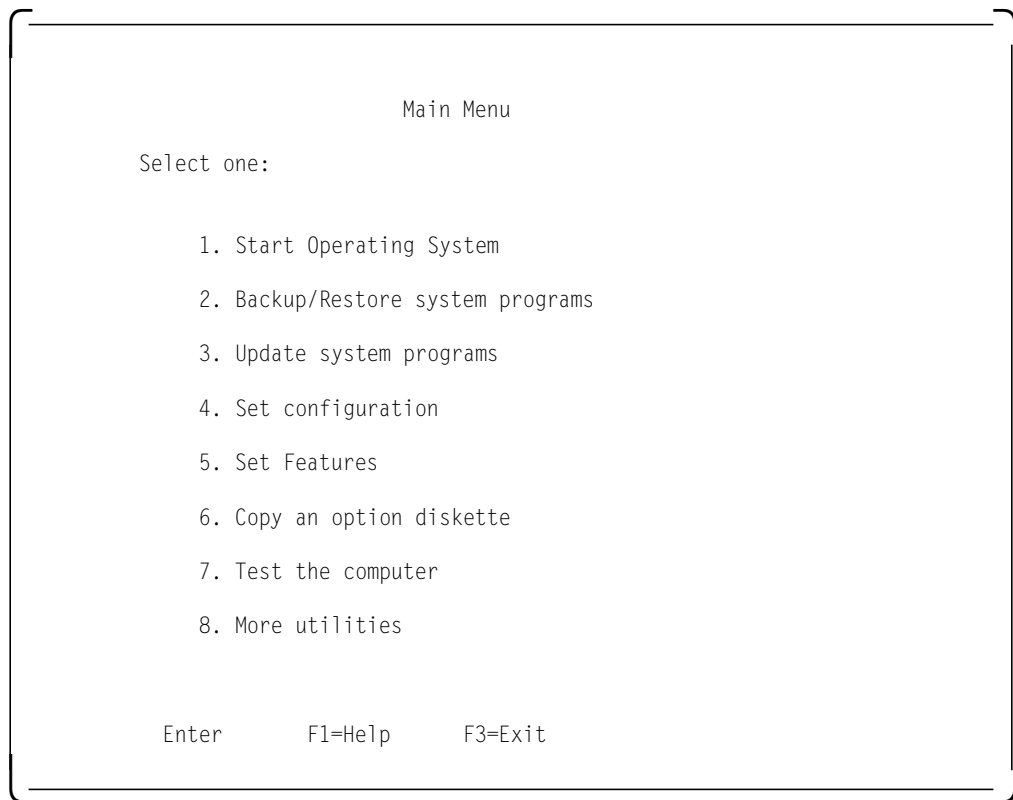

Figure 39. System Programs - Main Menu
4. When the F1 prompt appears, press F1. A second IBM logon screen appears, followed by the system programs Main Menu. The Main Menu is shown in Figure 39 on page 84.
After a few moments, the system programs Main Menu appears. It will look similar to the one in Figure 39.